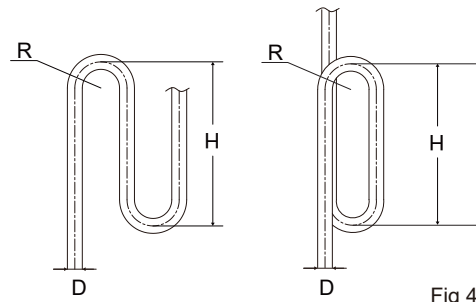

Fig 4.11
- When the outdoor unit is above the indoor unit, and the level difference exceeds 20 m, it is recommended that an oil return bend be set up at every 10 m interval on the gas pipe of the main piping. The recommended specifications of the oil return bend are as shown in figure 4.11.
- Requirement 3:** The largest level difference between indoor unit and outdoor unit should not exceed 50 m (if the outdoor unit is above) or 40 m (if the outdoor unit is below). Additionally: If the outdoor unit is above and the level difference is greater than 20 m, it is recommended that an oil return bend with dimensions as specified in Figure 4.11 is set every 10 m in the gas pipe of the main pipe.